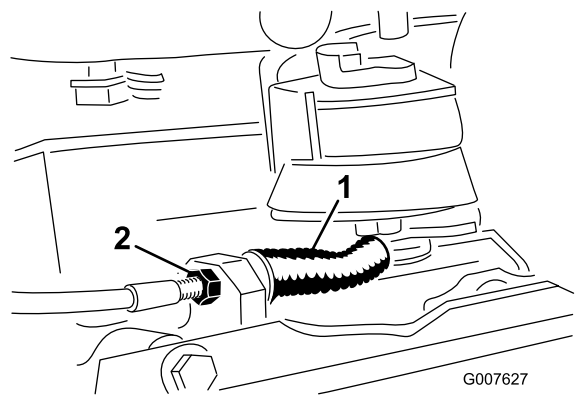

Figure 32
- To decrease the cable tension, loosen the front cable jam nut and tighten the rear jam nut (Figure 32). Repeat steps one and two and readjust if required.
- To increase the cable tension, tighten the front cable jam nut and loosen the rear jam nut (Figure 32). Repeat steps one and two and readjust if required.